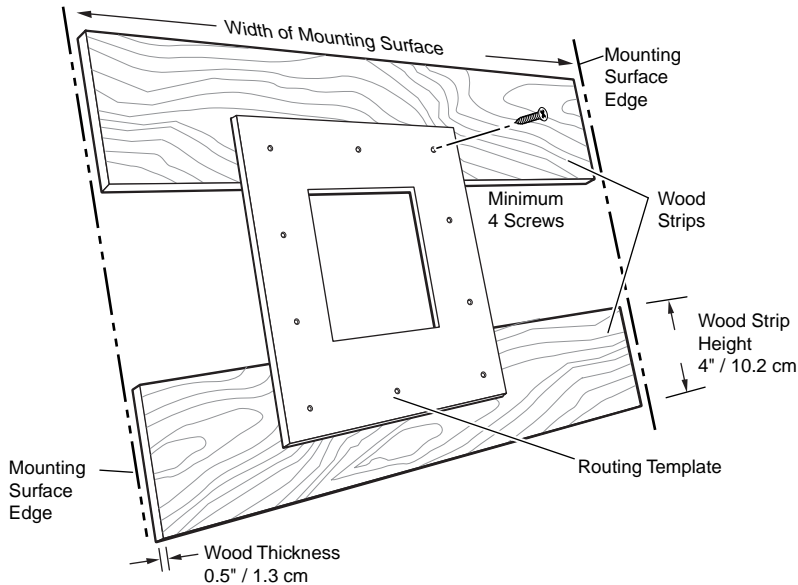

Figure 2-2 — Prepared mounting template
1. Cut 1/2" x 4" strips of soft, finished lumber long enough to span the distance between the desired installation location on the table or other mounting surface and the edges of the table (figure 2-2).